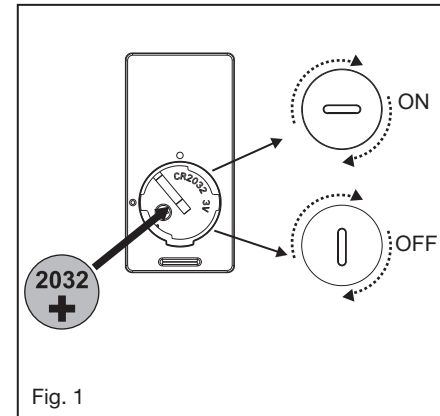

Fig. 1
- 1 Select a desired location. Use the wall plate to mark the location of the mounting holes. Plastic wall anchors or mounting screws are needed for this application. (Fig. 1)
Remove the panel from the transmitter and then install one 2032 battery (included). You need to use a coin to open or close the battery cover. To prevent damage to transmitter, remove the battery if not use for long periods of time (Fig. 1)